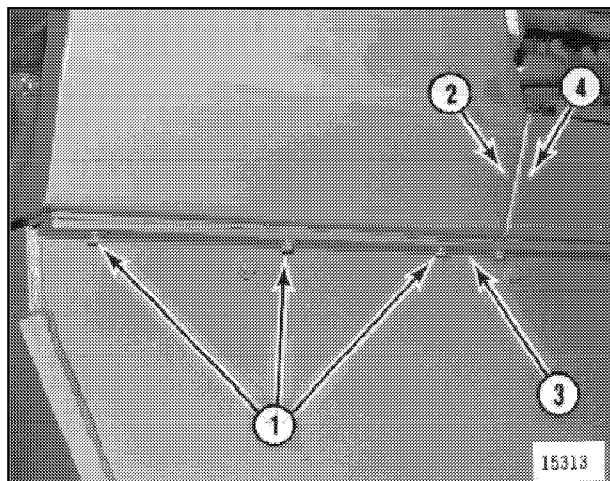

Figure 20
12. Remove three bolts, lock washers and flat washers (1, Figure 20) that secure rear cowl (2) to frame (3) on each side. Remove two bolts, lock washers and flat washers that secure rear cowl to battery tray (4).